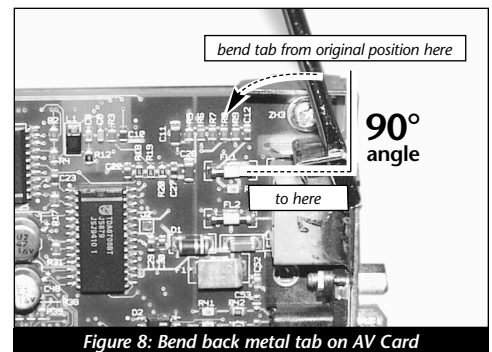
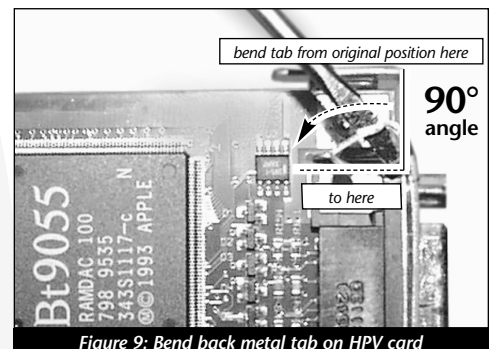

Figure 8: Bend back metal tab on AV Card
Figure 9: Bend back metal tab on HPV card
10. Before attaching the AV or HPV card to the video adapter board, you need to bend the metal tab 90° at the end of the AV card (**Figure 8**) or HPV card (**Figure 9**) with a small flatblade screwdriver so it fits in its new location.